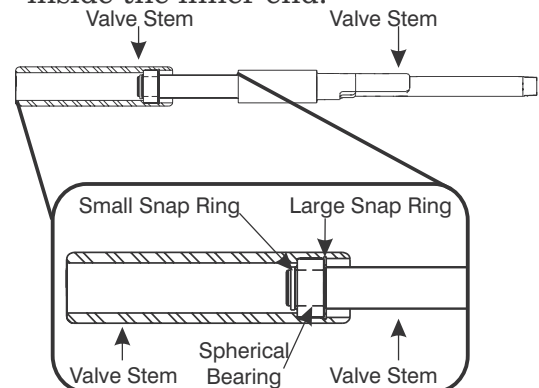

Figure 8-28. Snap Ring on Valve Stem
2. As shown in Figure 8-28, Snap Ring (4) holds the Valve (1) on the Valve Stem (5). It is attached to the Valve (1) just inside the inner end.